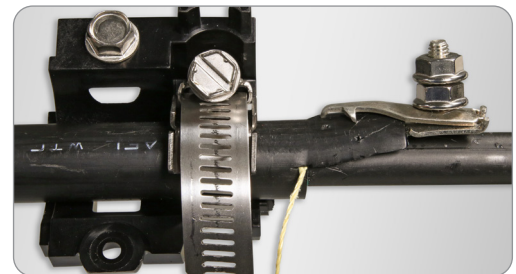

Figure 13
- Armor bond tab should be at 90 degrees to the CAU. (Figure 13)